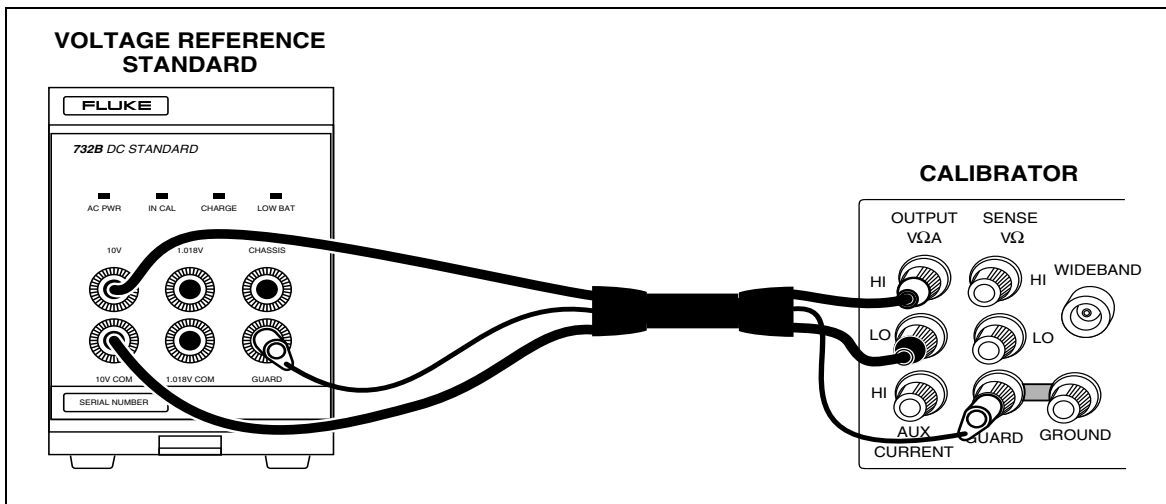

Figure 3-1. 732B External Calibration Connections.
5. Connect the 732B to the calibrator as shown in Figure 3-1.